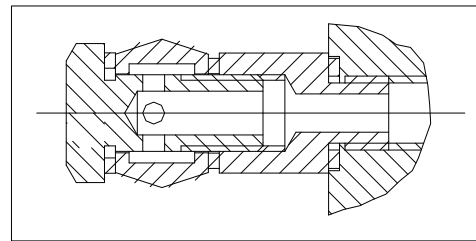

Fig.38
2. Connect the hydraulic unit to the circuit crossing with a flexible pipe(Fig.38).